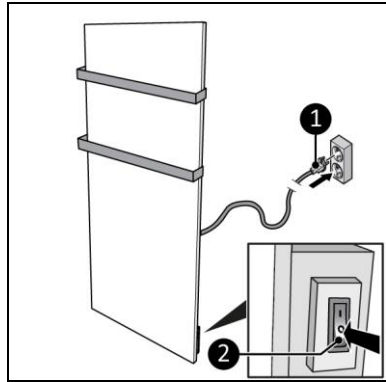

Figure 11
2. Make sure the ON/OFF switch is in the OFF position (Figure 11, pos. 2).
3. Place the power plug (Figure 11, pos. 1) into an earthed wall socket that is easily accessible. Use an earthed wall socket with a minimum power of 800 Watt.
1. Make sure the ON/OFF switch is in the OFF position (Figure 11, pos. 2).
2. Disconnect the power plug from the power outlet (Figure 11).